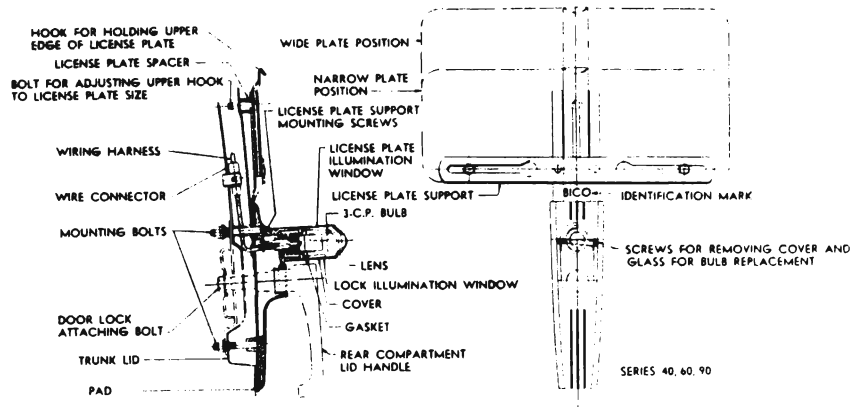

Fig. 12-72. Rear License Plate Bracket—Series 40-60-90
- Wiring connections are made by a connector on the lid for accessibility and protection from water. To replace bulb remove the two screws holding hood in position on lamp assembly. See Fig. 12-72.